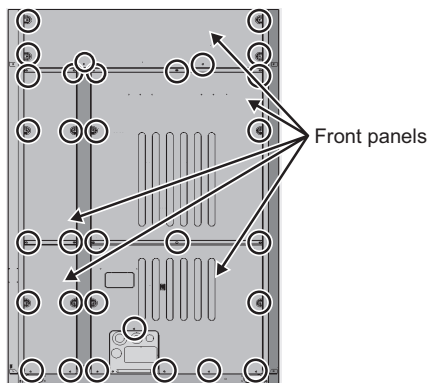

Fig. 29
- (1) Remove the panels from the unit. (31 screws: Fig. 29)